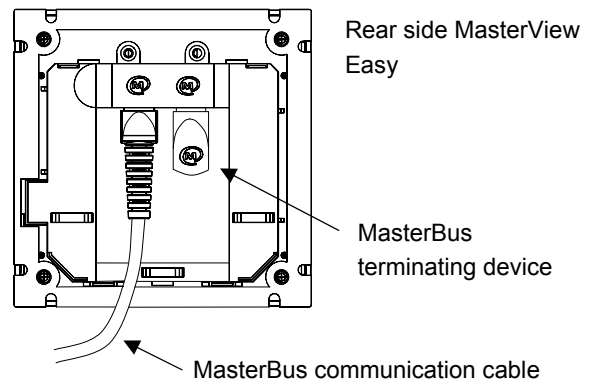

Figure 2
- 2 See figure 2. Connect the other end of the communication cable to one of both communication ports of the *MasterView Easy*. Insert a *MasterBus* terminating device into the other communication port.